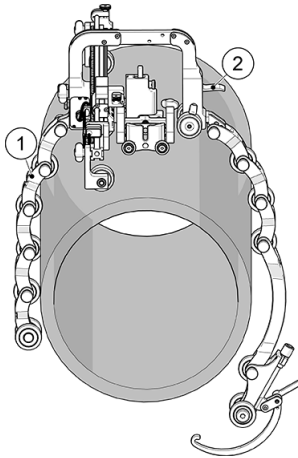

Figure 2-4 Dovetail link (1), brake (2)
6. Place the dovetail link 2nd in the chain after the corrosion link (see Figure 2-4 on page 36).
8. Drape the configured chain assembly around pipe or tube to be inspected (see Figure 2-4 on page 36).